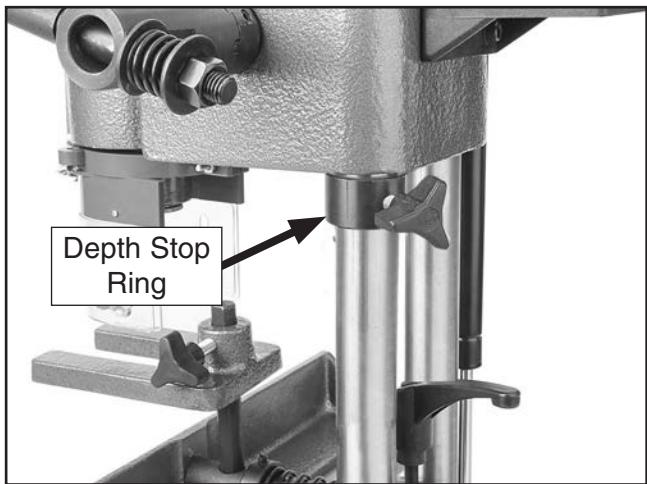

Figure 8. Depth stop securing headstock at highest position.
3. Raise headstock to highest point and secure with depth stop, as shown in **Figure 8** (see **Adjusting Depth Stop on Page 23**).